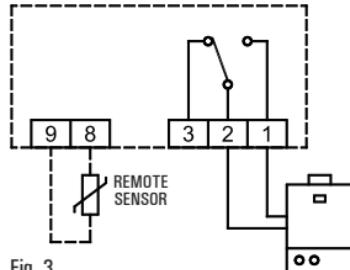
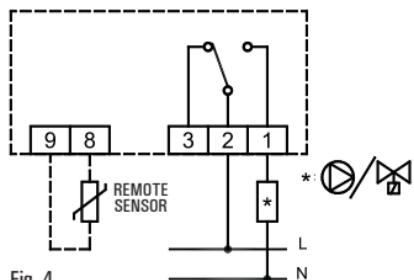

Fig. 3.
Fig. 4.
3. Make the electrical connections following the connection diagram in Fig. 3 or Fig. 4.
Fit the batteries into the compartment provided, observing proper polarity (Fig. 4). Reset the device by inserting a pointed implement through the hole provided (L on Fig. 4); DO NOT USE NEEDLES.
'OK': Programming/Time/Confirm (I on Fig. 4);
' Δ ': Forward (G on Fig. 4);
' ∇ ': Back (H on Fig. 4);
The timer thermostat has 24 switches (A on Fig. 4), situated alongside the display, for programming operation in the 'Comfort' or 'Economy' modes at different times of the day.
For example, note that the time interval from 00 to 05 is controlled by a single switch, whereas from 05 to 09 in the morning settings can be made at half-hour intervals. For the rest of the day, the selectable time intervals are one hour each (A on Fig. 4).